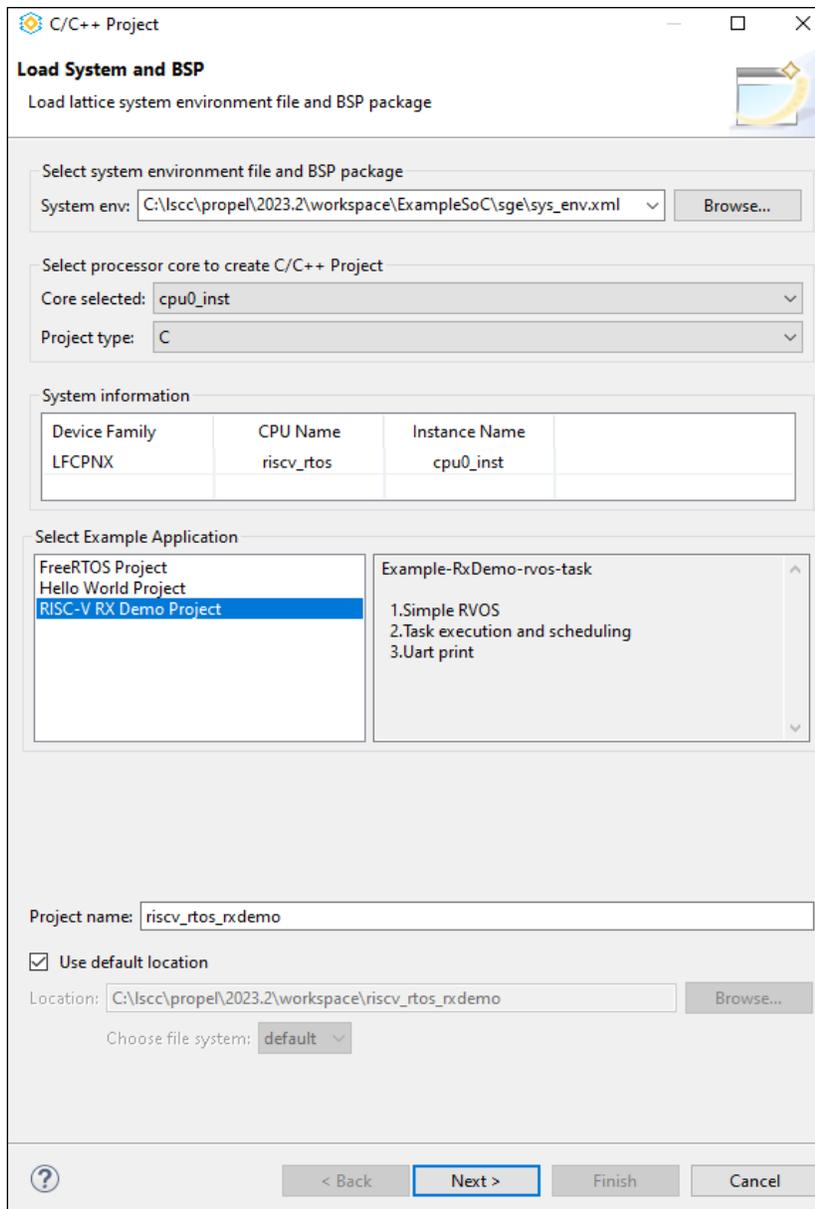

Figure 5.1. Create RX Demo C Project
1. The RX Demo C project can be created through the **Load System and BSP** page (Figure 5.1).